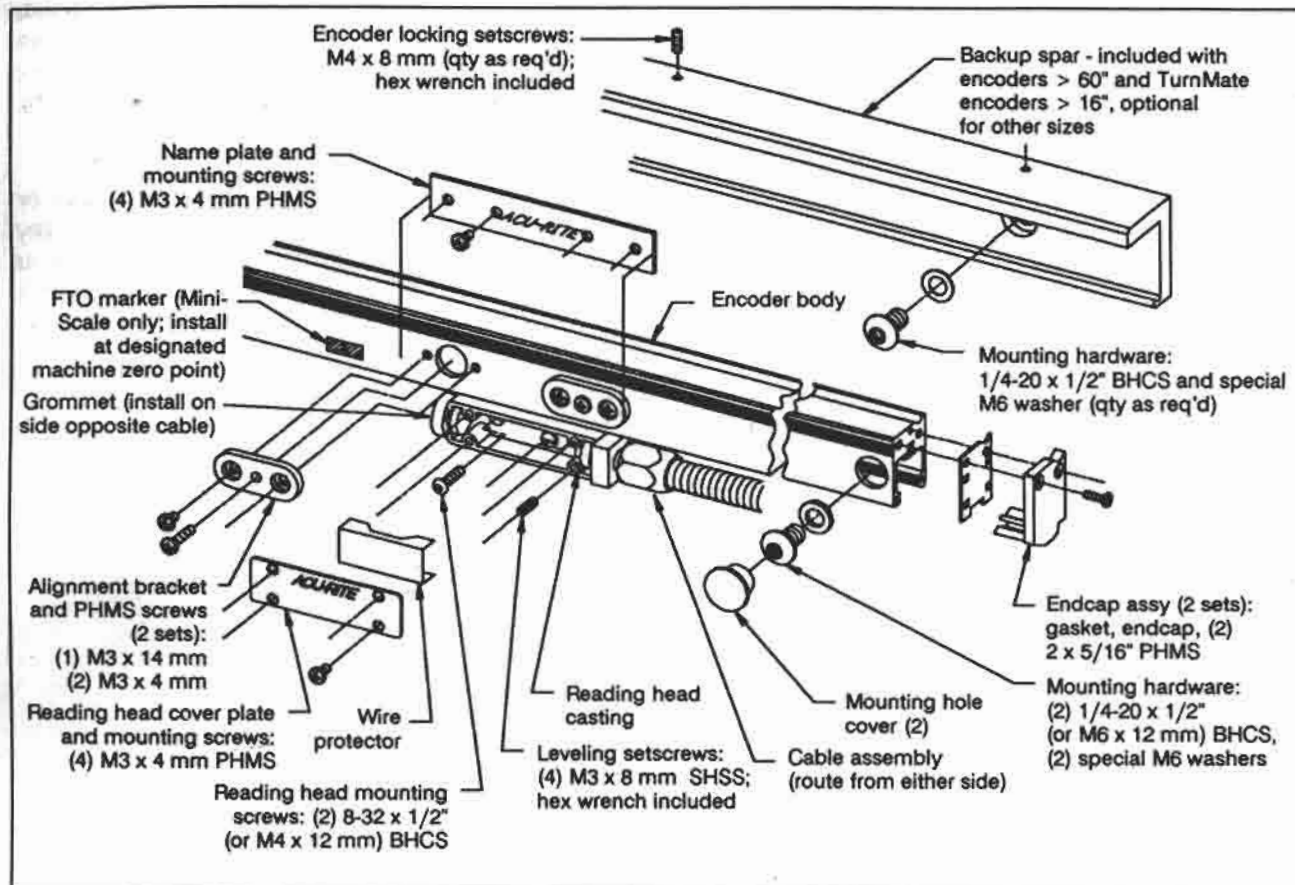

Figure 3-1. Mini-Scale and Mate System linear encoders, exploded view.
- 4 Scribe a line along the top and one end of the spar or encoder. If mounting with a backup spar, use the hex key provided to loosen the M4 SHSS along the top of the spar (Figure 3-1). Remove the encoder assembly and set it aside. The backup spar will be mounted to the machine, then the encoder installed into the spar.